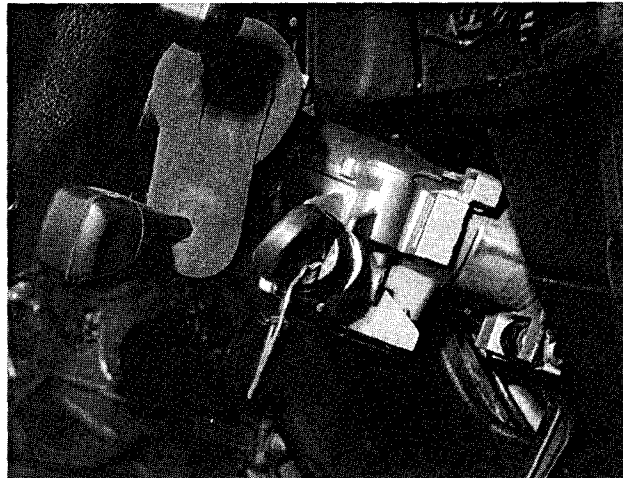

Fig. 8. With ignition key in "radio" position, insert stiff wire into lock opening to release cylinder.
2. Insert a thin piece of stiff wire into opening in lock cylinder and pull lock cylinder out. See Fig. 8.